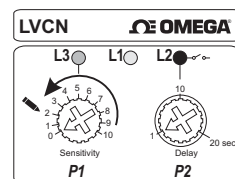

Fig.3
When installing from the top of the tank confirm that the tip of the probe has cleared the side of the vessel at least 500mm (Fig. 3).
5. Turn the potentiometer (P1) counter-clockwise until the yellow LED (L1) turns Off. Mark the location where the yellow LED shuts off on the electronics' sticker using a pen or pencil. If the LED does not turn Off, leave the potentiometer completely turned counter-clockwise (Fig. 3).
Use the correct tool during installation (Fig. 3)